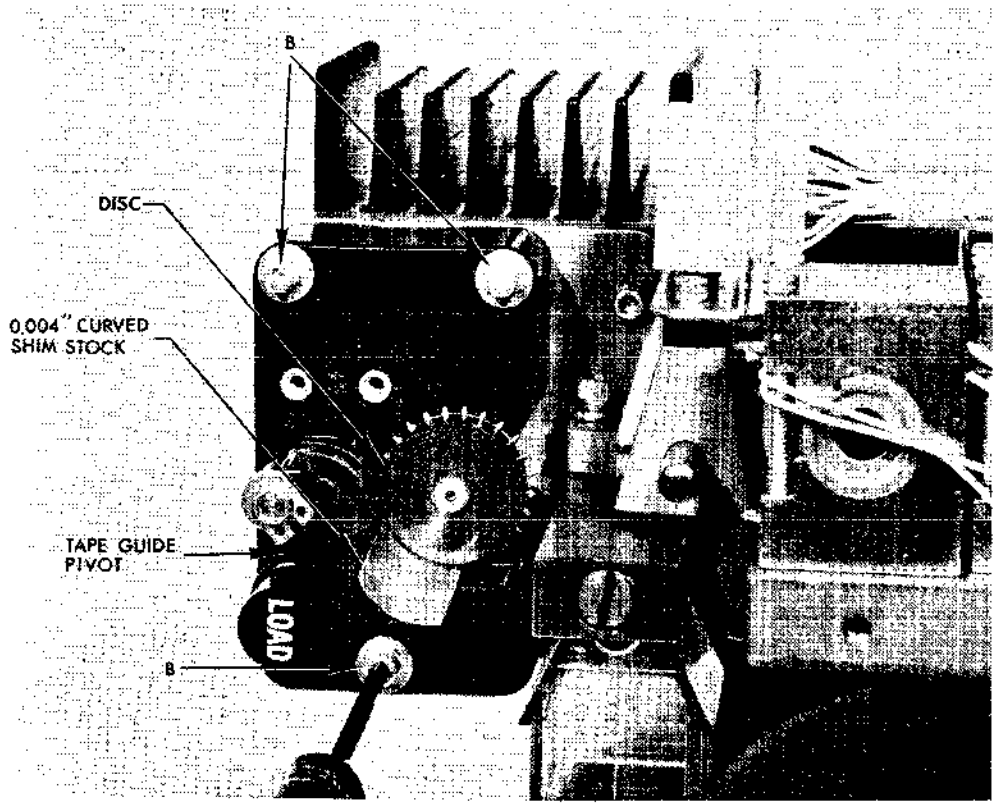

Figure 5-4. Tape Drive Assembly Alignment.
- o. Replace the drive assembly but do not tighten the three screws (B).
- p. Insert a 0.004" curved shim stock between the tape guide pivot on the tape drive assembly and the delrin disk. Position the tape drive assembly so that the spacing shown in Figure 5-4 is 0.004 inch. Tighten the three screws. Recheck the gap. The screws marked B in Figure 5-4 are the same three screws marked B in Figure 7-1.